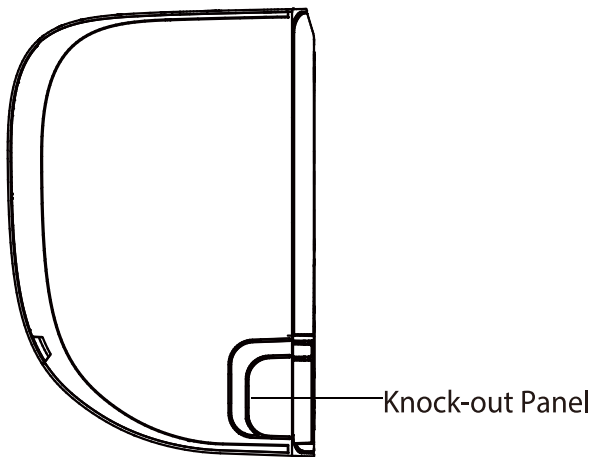

Fig. 3.3
- 2 If the wall hole is behind the unit, keep the knock-out panel in place. If the wall hole is to the side of the indoor unit, remove the plastic knock-out panel from that side of the unit. (See Fig. 3.3). This will create a slot through which your piping can exit the unit. Use needle nose pliers if the plastic panel is too difficult to remove by hand.